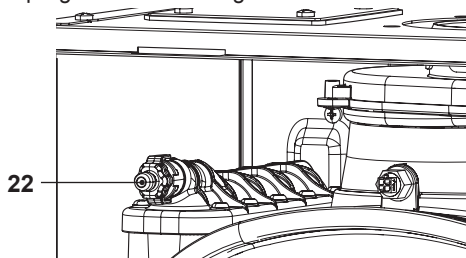

Fig. 10.12
- To help the draining of the primary circuit loose the condensing heat exchanger air purger valve 22 in Fig. 10.12.